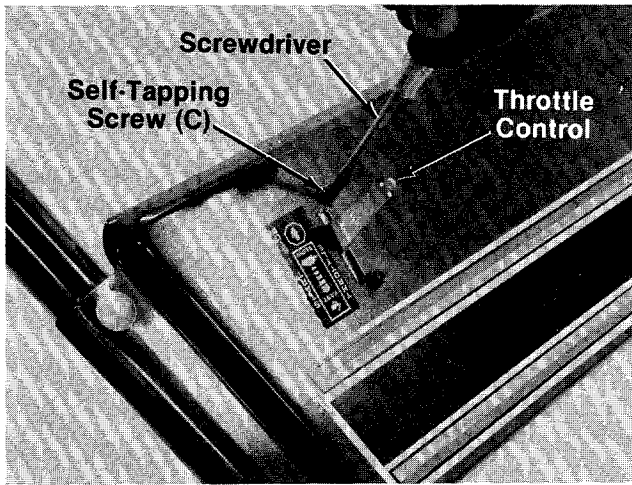

FIGURE 7.
1. Place the throttle control up through the slot in the handle panel. Secure with two self-tapping screws (C). Tighten securely with a screwdriver. See figure 7.